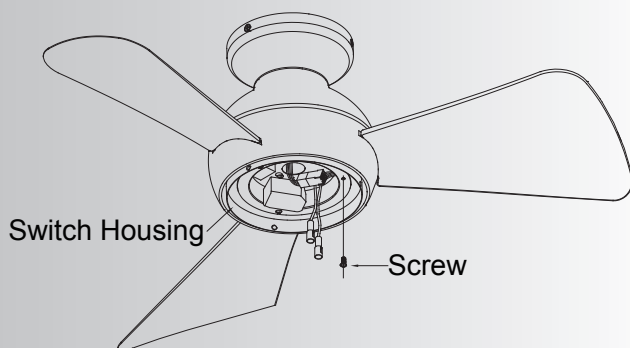

Fig. 13
Step 4. Remove one of the three screws in the switch housing. Slightly loosen the remaining two screws. (Fig. 13)